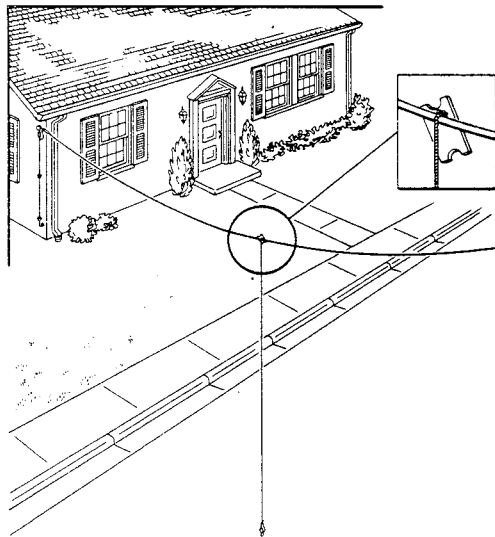

Fig. 15—Measuring Existing Drop With Clearance Measuring Line
4.07 Unwind the line from the bobbin. Stand beneath the drop wire and hold the clip in one hand and toss the bobbin over the wire with the other hand (Fig. 15). **Be sure that line will not contact or cross over power lines.** Do not toss bobbin from a position to the side of the wire,